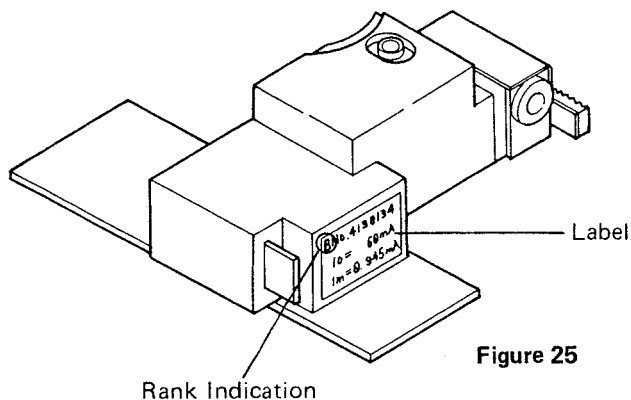

Figure 25
- The pickups are divided into two rank groups, A and B, and the rank is indicated on a label put on a side of the pickup as shown in Figure 25. When replacing by a new pickup of the same rank as the pickup to be replaced, no additional resistor replacement is required. However, when replaced by a new pickup of a different rank, a resistor must be replaced as tabulated below, according to the rank of a new pickup.